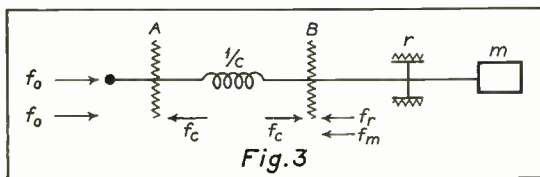
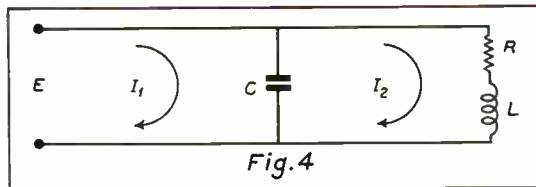

Fig. 3
Fig. 4
As a second example, we choose the same system as that of Fig. 1, but driven from the other end (Fig. 3). For the balance of forces in point A there must be
We compare this with the electrical circuit of Fig. 4. By assumption of the "mesh currents" I₁ and I₂, we take into account Kirchhoff's second law—sum of currents = zero in a node point. Kirchhoff's first law—
By the complete analogy between the equations (7) and (8) it is evident that the network in Fig. 4 is the electrical equivalent for the mechanical system in Fig. 3.